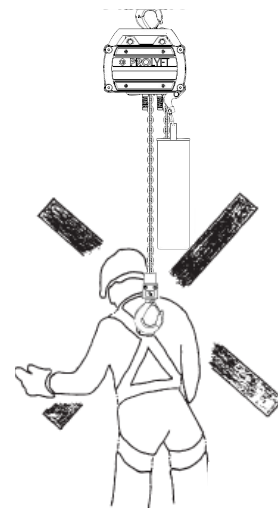

Fig. 3
- **Do not** use the hoist without additional measures for the transportation of people, see chapter 10 (Fig. 3).